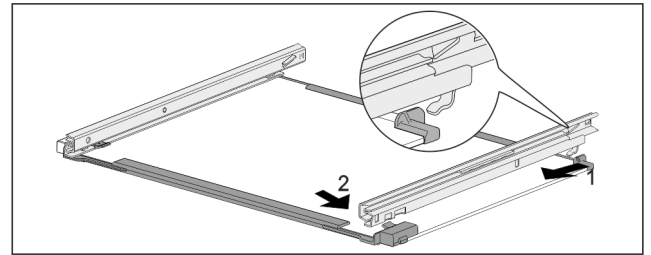

Fig. 171 Glass shelf with rails
- ▶ Hook in rail at the back. Fig. 171 (1)
- ▶ Hook in rail at the front. Fig. 171 (2)